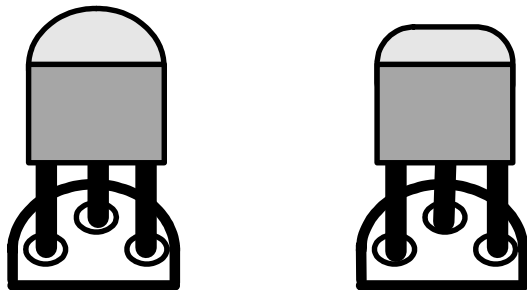

Figure 4-2
- Locate Q12 (type PN2222A), which is a small, black TO-92 package transistor. Q12 and other TO-92 transistors may have either of the two shapes shown in Figure 4-2. **The large flat side of the device must be aligned with the flat side of the component outline.** The part number may be found on either side.
- Install Q12 near the upper left-hand corner of the PC board. Align the large flat side of Q12 with its PC board outline as in Figure 4-2. The body of the transistor should be about 1/8" (3 mm) above the board; don't force it down too far or you may break the leads. Bend the leads of the transistor outward slightly on the bottom to hold it in place. Solder Q12.